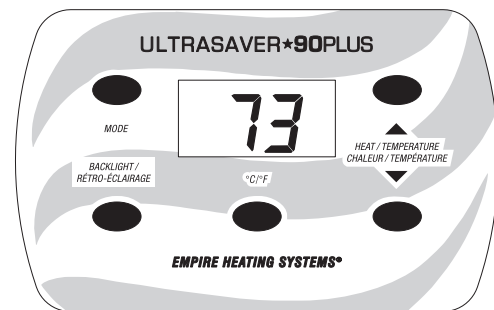

Figure 9
2. Use the up and down adjustment buttons on the display panel to set the desired room temperature. The display will illuminate and the word "SET" will appear in the top right corner of the display. See Figure 9. After the temperature is set, the display panel will darken and return to displaying the room temperature.